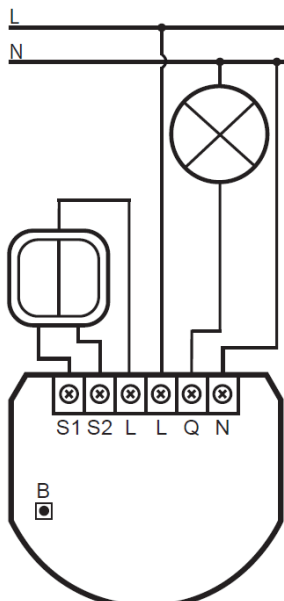

Figure 1: Example connection of SingleSwitch-Control
- Connect only as shown in Figure 1 below. Incorrect connection may cause risk to health, life or material damage.
3. Connect as shown in Figure 1 below.